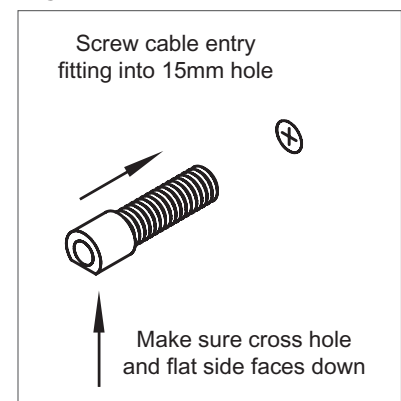

Fig 2.0
- Screw the cable entry fitting into the 15mm hole in the wall framing using an adjustable spanner, see Fig 2.0
**IMPORTANT Make sure that the flat side comes to rest facing straight down, see Fig 2.0**